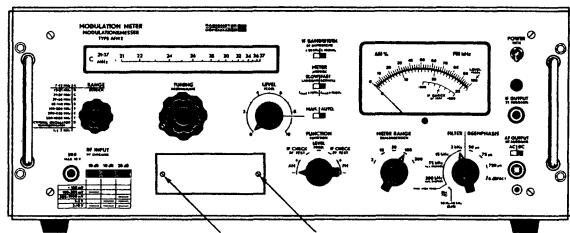

Fig. E5. The arrows show screws and plate to be removed when a plug-in unit is to be used.
Crystal Oscillator Unit is to be placed (see Fig. E5).
- 1) Remove the two screws and the plate covering the receptacle in which the External-Oscillator Amplifier is to be placed (see Fig. E5).